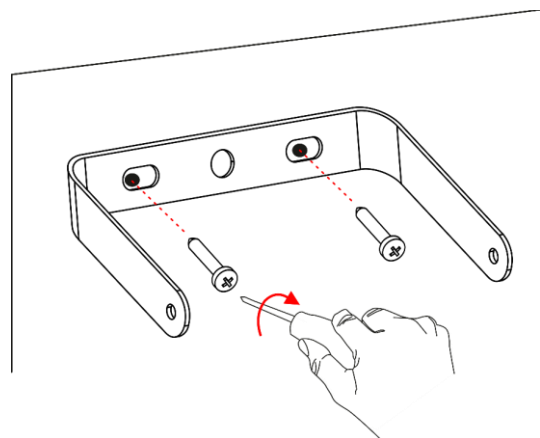

Fig. 10
- 06) Insert and tighten the screws to install the **mounting bracket (03)** (Fig. 10).